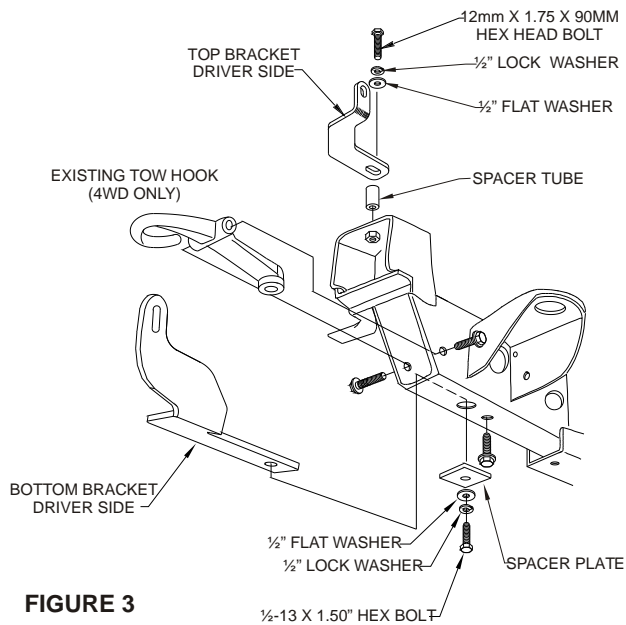

FIGURE 3
- STEP 8. To install top brackets, remove both 12MM factory bumper bolts from top of frame(located behind the top side of bumper). On each side, replace with spacer tube, top mount bracket, 1/2" flat washer, 1/2" lock washer and M12-1.75 x 90MM bolt. Finger tighten 12MM bolts. SEE FIGURE 3.
- STEP 9. To install bottom brackets, remove 12MM tow hook bolts and tow hooks. Switch tow hooks by placing the driver side tow hook on the passenger side. Reinstall bolts and tighten. NOTE: Tow hooks should face inside of vehicle. SEE FIGURE 3.